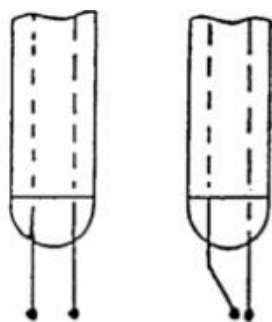

Figure 6
- 3) measuring electrode bending and no short circuit can be used. Can also be repaired. Repair with the root of the tweezers platinum electrode, slowly dressing platinum electrode tip, the available electrodes such as shown in Figure 6.